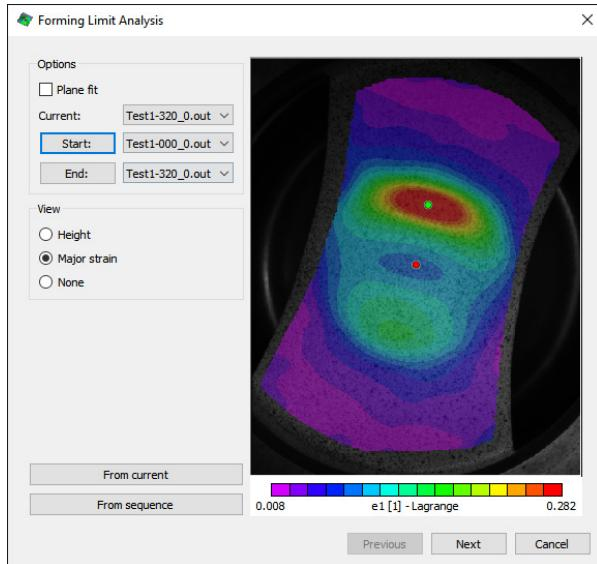
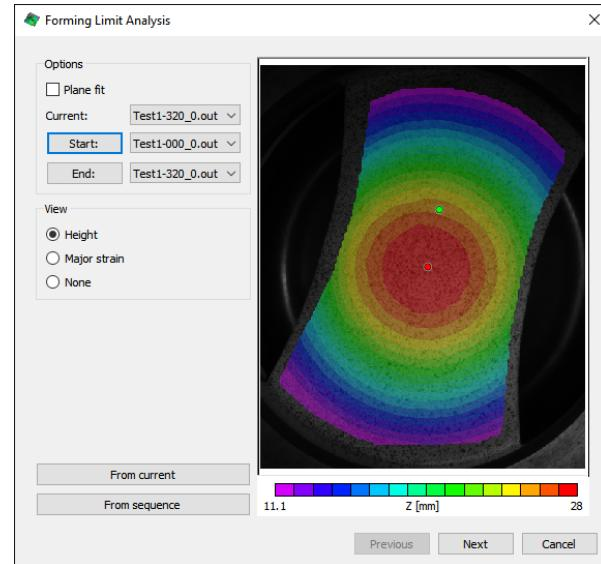

Figure 1.
Figure 2.
4. In the FLC dialog VIC-3D automatically displays the data from the last image in the sequence, and locates the peak major strain e_1 (green point in figure 1), and the peak dome height Z value (red point in figure 2) in the image pair before failure.